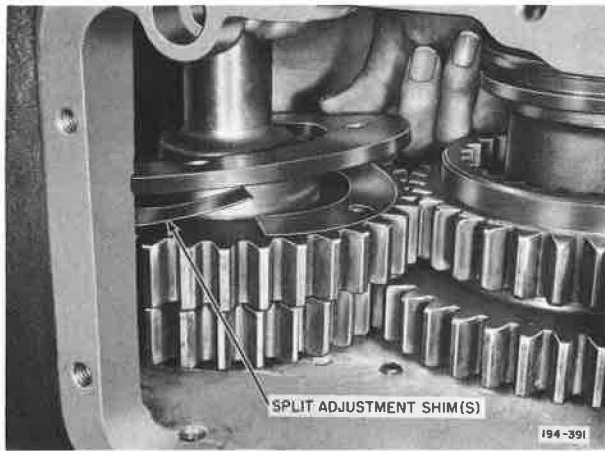

Figure 5-181. Installing Split Adjusting Shims
26. Install existing split adjusting shims between two upper compound countershaft Hi-range gears (Lo-range for TRDXL107, 1070) and their thick thrust washers. See Figure 5-181.